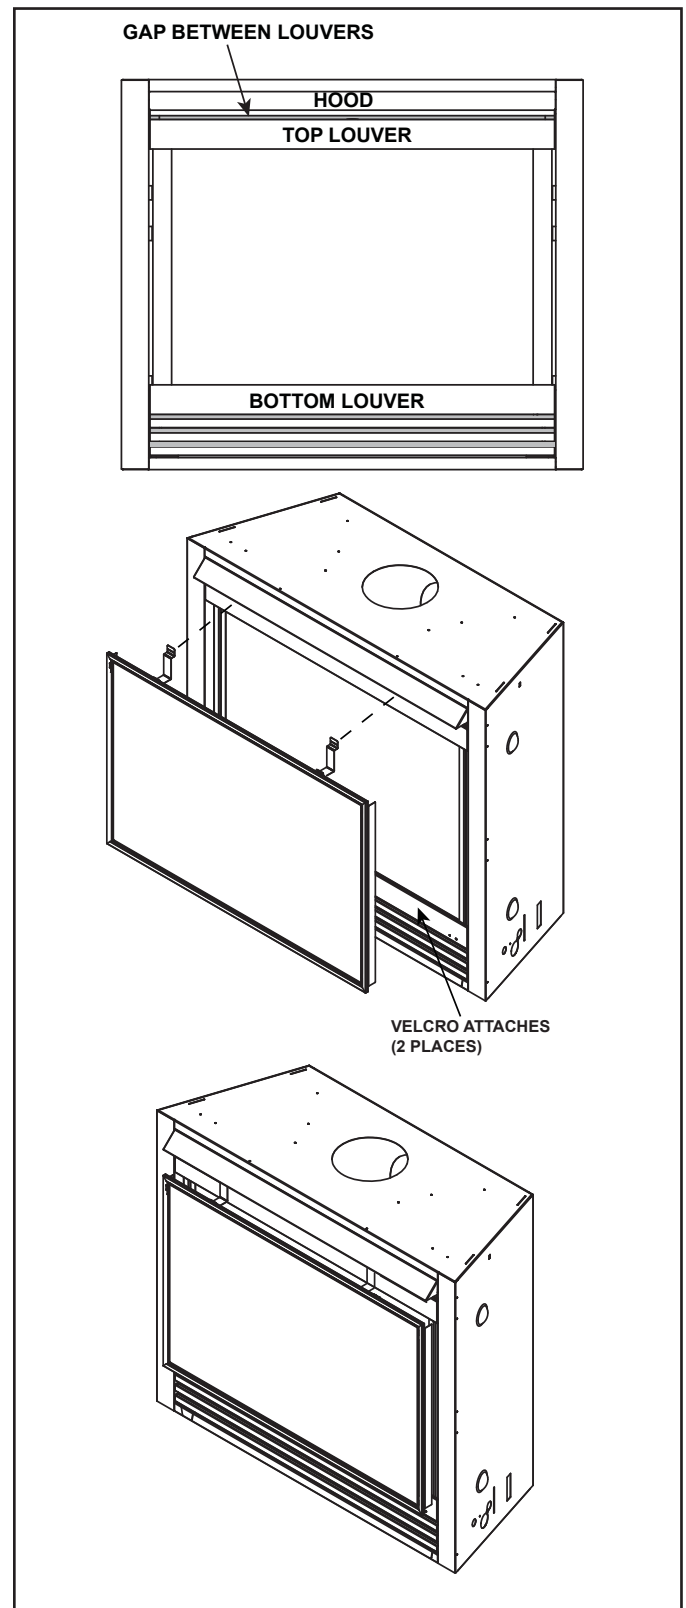

Figure 6. Installing Mesh
- Attach mesh assembly by inserting the top brackets into the top louver. Ensure that the mesh is centered (left to right) before securing the velcro. See Figure 6.
When installed correctly, the mesh frame will be located 1-1/2 inches away from the decorative front or louver. See Figure 6.